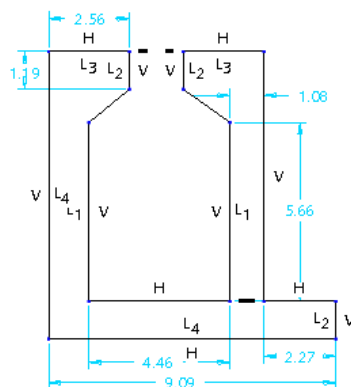

Figure 2-29 Sketch with weak dimensions and constraints
- Draw the sketch by using the **Line Chain** tool, refer to Figure 2-29.
7. Select the vertex that is joining the lines L and M. Now, select the vertex that is joining the lines G and H. Both the vertices are aligned horizontally, as shown in Figure 2-29.